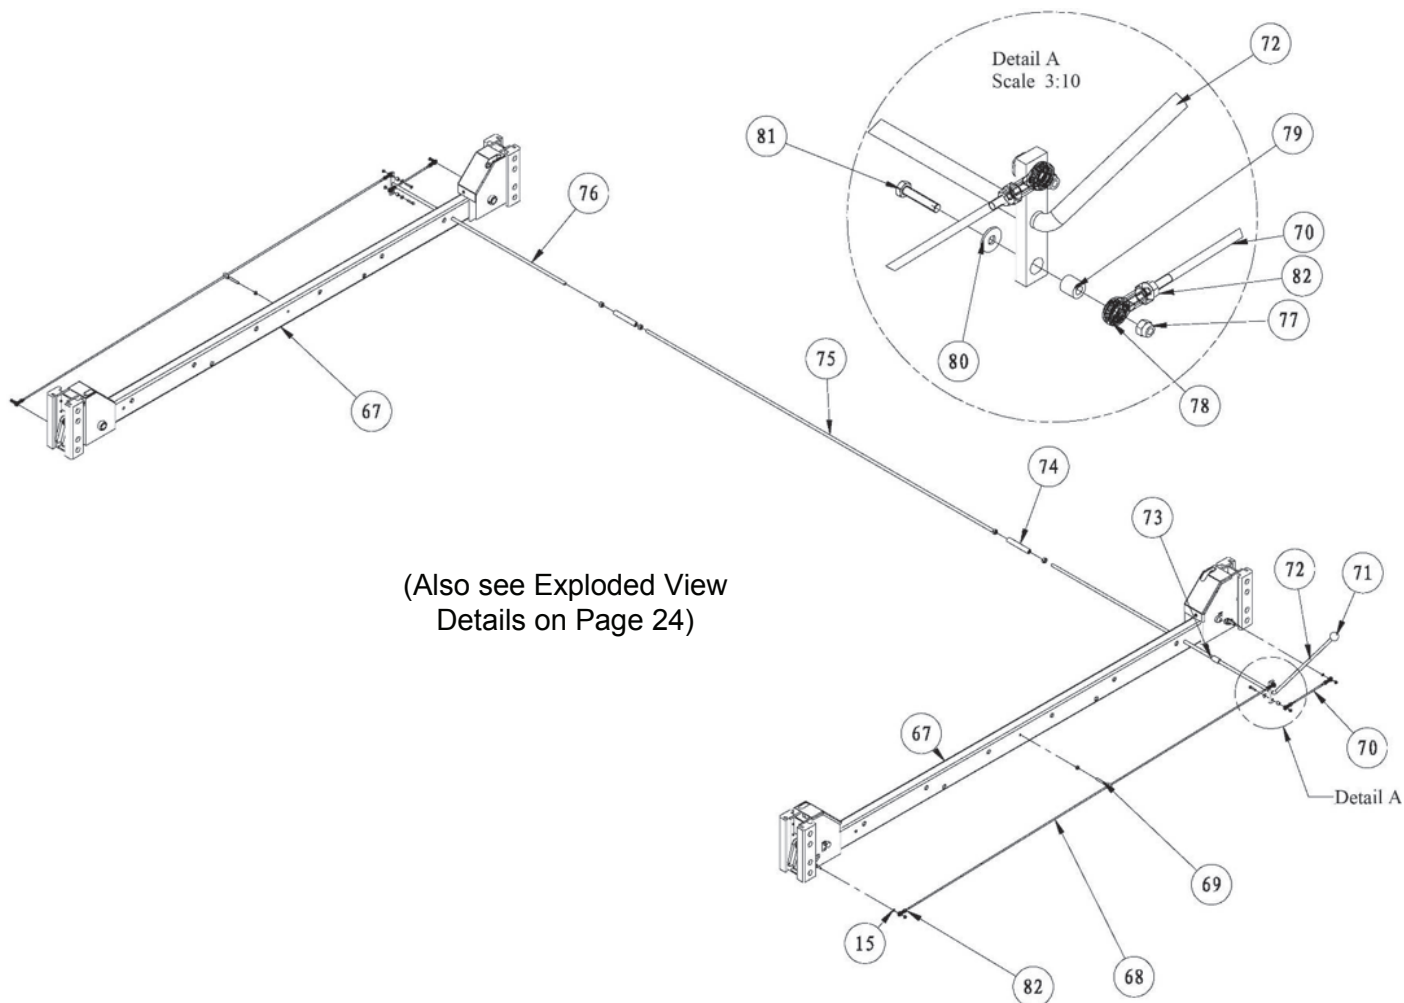

Fig. 9
20. Install Lock Rods & Linkage components per the drawing Fig.9 below. Ensure to install Eye bolts (#69) to outside / middle of each Crossbeam, secure each Eye bolt with Hex Nut.